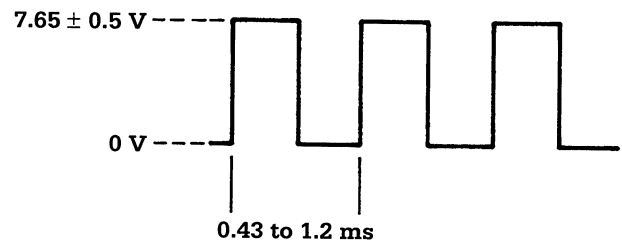

Figure 7-1
1. Connect an oscilloscope between TP-21 (U1 pin 10) and ground. Adjust the oscilloscope for 2 V/division vertical scale and 0.2 ms/division horizontal scale. There must be a square wave of approximately 850 to 2300 Hz (time period of 0.43 to 1.2/ms). The waveform should look like Figure 7-1. Adjust potentiometer RA if necessary to obtain the specified time period.